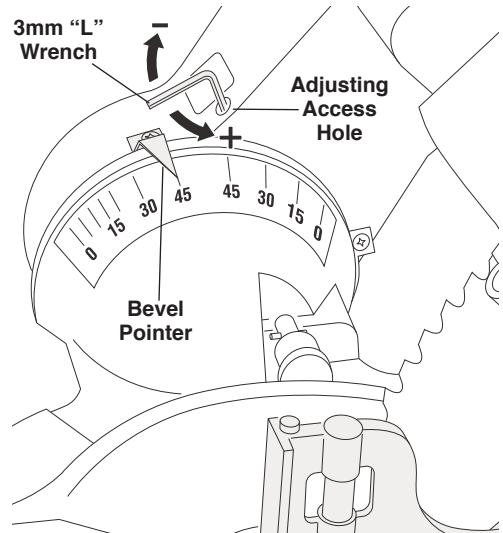

Figure 8. Right 45° Bevel Adjustment
4. Insert 3 mm "L" wrench into hole in vertical support frame. (Figure 8)